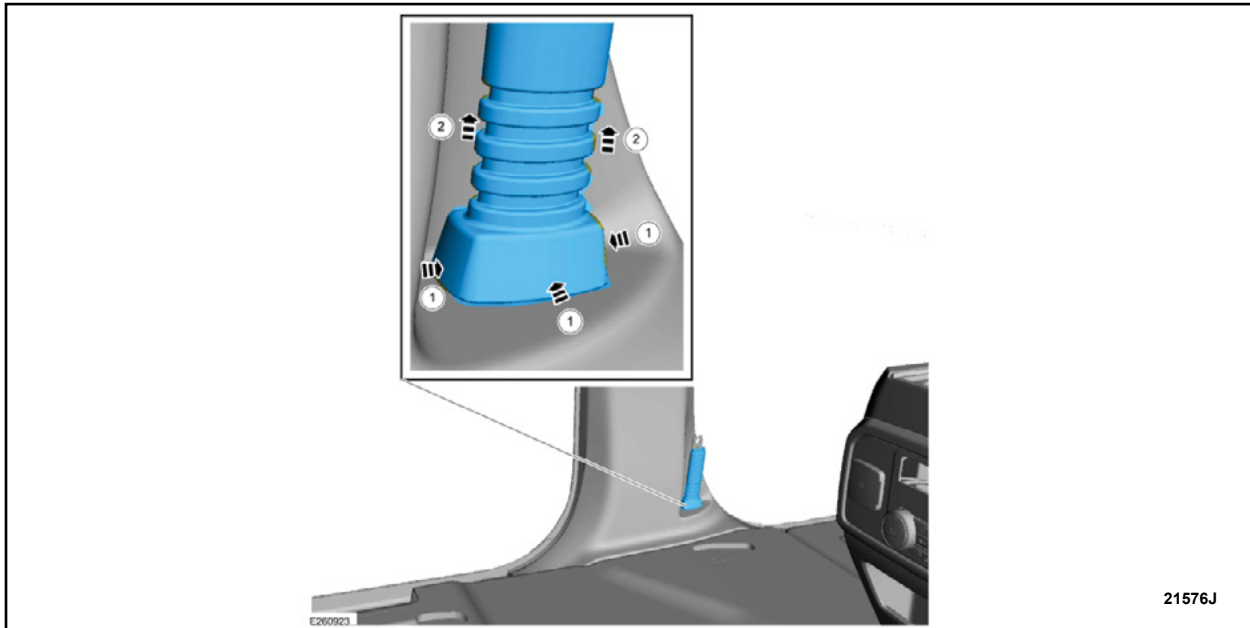

FIGURE 17
9. Press in on the sides of the front seatbelt anchor pretensioner boot, then lift up and remove the front seatbelt anchor pretensioner boot. See Figure 17.